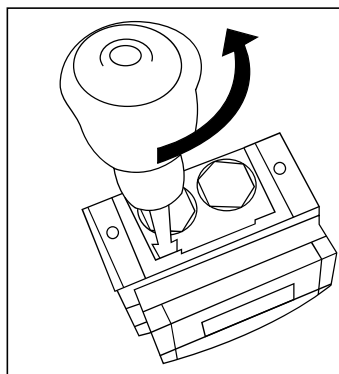

Fig. 3 Cover removal
- To remove the cover, undo and remove the four cover fixing screws. The four retaining clips also need to be released. To do this place a flat bladed screwdriver into the slot between the cover and backbox and gently twist until the clip disengages (Fig. 3). Repeat this for the three remaining clips and pull the cover away from the backbox.